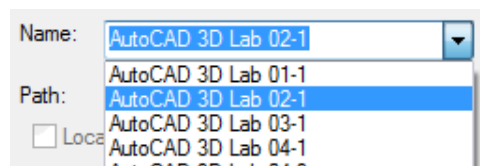

Figure Step 10
Step 10 Click the block: AutoCAD 3D Lab 02-1. It will highlight as shown in the figure. The name you select is always the name of the drawing for the lab exercise you are working on. (Figure Step 10)